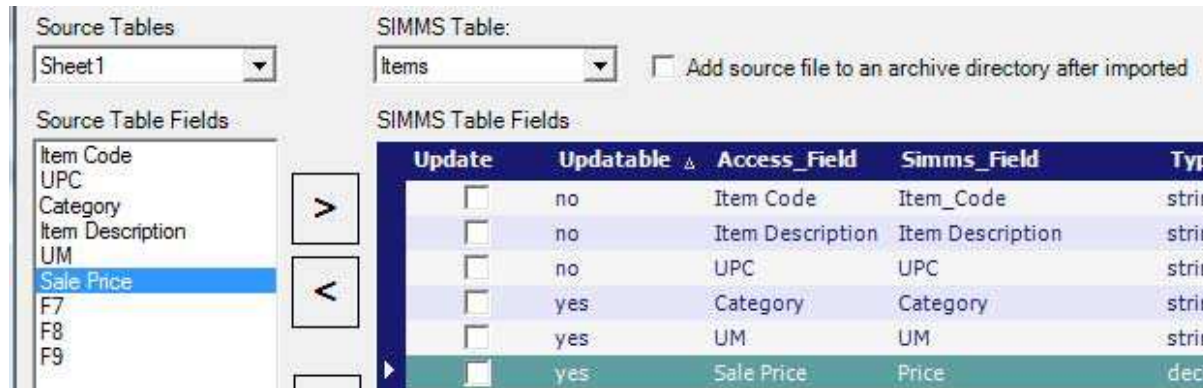

Figure 5: Affiliating fields on the Visual Import Manager window
6. Select each Source Table Field name one at a time then click the corresponding line in the SIMMS Table Fields pane (such as Sale Price, shown in Figure 5).